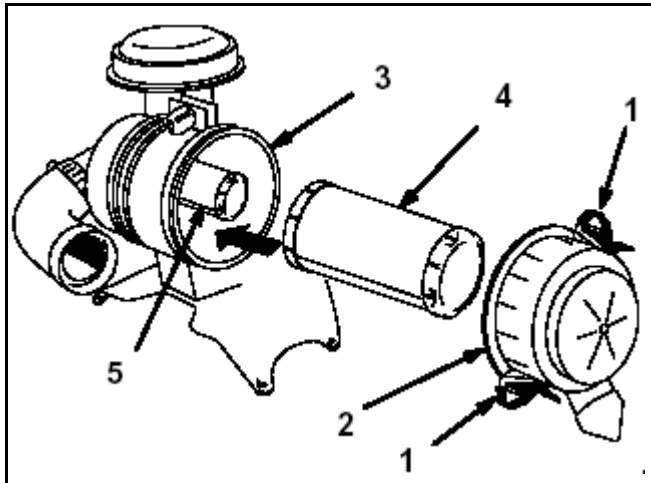

Figure 5
2. Release the latches on the air cleaner and pull the air cleaner cover off of the air cleaner body (Figure 5).
4. Gently slide the primary filter out of the air cleaner body (Figure 5). Avoid knocking the filter into the side of the body. Do not remove the safety filter, unless you intend to replace it as well.
2. If the safety filter is being replaced, carefully slide it into the filter body (Figure 5).
3. Carefully slide the primary filter over the safety filter (Figure 5). Ensure that it is fully seated by pushing on the outer rim of the filter while installing it.
4. Install the air cleaner cover with the side indicated as UP facing up and secure the latches (Figure 5).